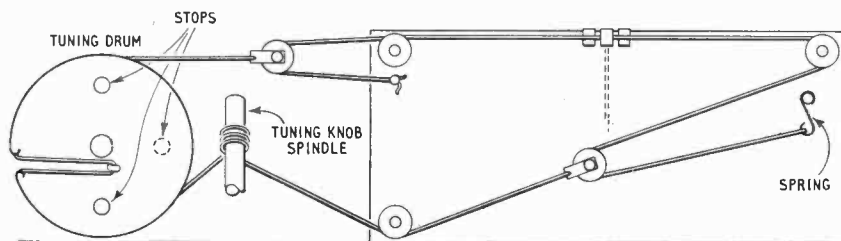

Fig. 2. Arrangement of tuning drive and dial with jockey pulleys to double scale length.
**A** GENERAL view of the receiver chassis is shown in the photograph. The i.f. amplifier occupies about 11 inches along the centre of a brass channel  $20 \times 3 \times 1$  in; the r.f. and a.f. circuits are housed in separate units at each end. The left-hand knob is the on-off/a.f.-gain control; the right-hand knob controls the tuning and is coupled to the scale pointer by a cord drive using flying pulleys to obtain the expanded tuning scale as shown in Fig. 2; this layout is convenient for the size of cabinet chosen but these units could be disposed in a more compact form if desired, provided that no liberties are taken with the circuit layout. In particular, the i.f. unit has a maximum gain of 90 dB and is unscreened; any reduction in the spacing of two inches per stage would necessitate some additional screening.